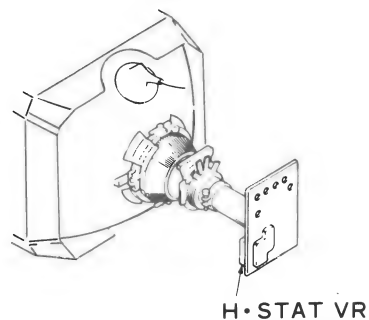

Fig. 3-6
3. Overlap the R and B dots in a horizontal direction in the center of the picture using the H·STAT VR knob. (See Fig. 3-6.)